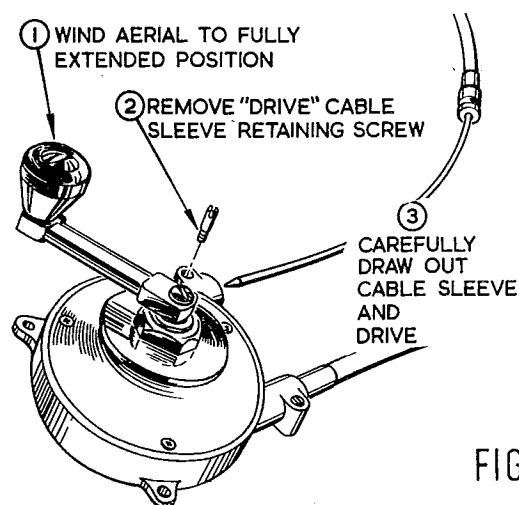

FIG. 3
7. Wind up aerial mast to maximum height and remove the drive cable from winder mechanism, as shown in Fig. 3.